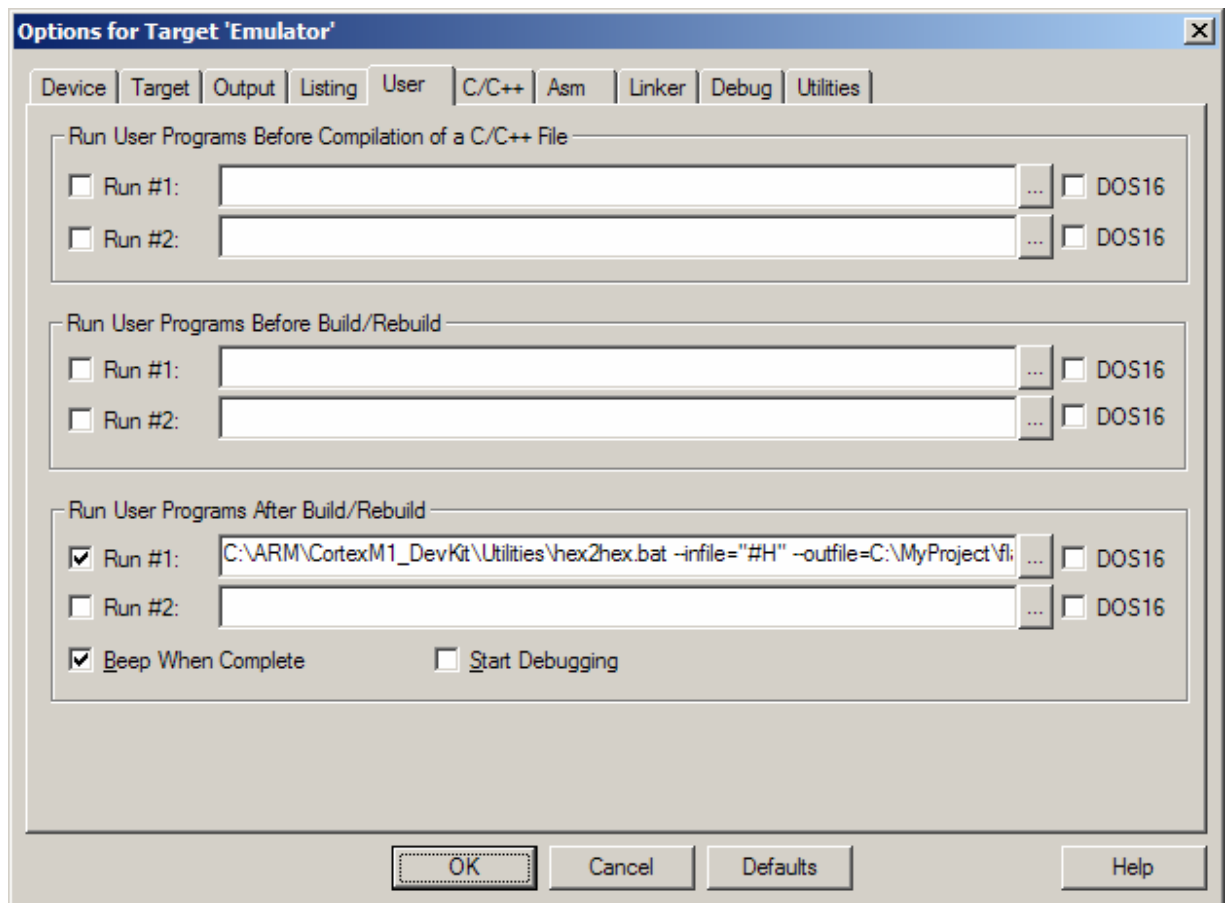

Figure 8 – RealView MDK User options
2. In the project options window, select the **User** tab as shown in Figure 8 on page 4-3.